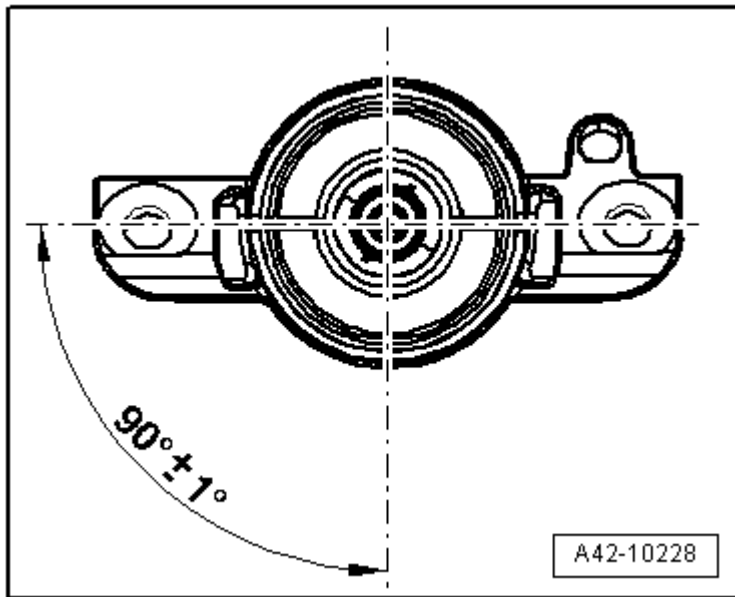

Fig. 298: Upper Shock Absorber Mount Installation Position
- Installed position, refer to **Fig. 298**